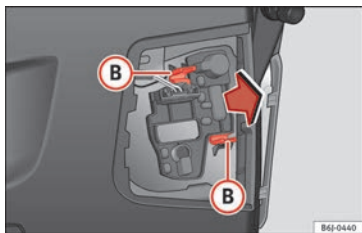

Fig. 114 Removing the bulb holder.
- Remove the bulb holder by pressing the fastening clips **B** »» Fig. 114 and pulling outwards.